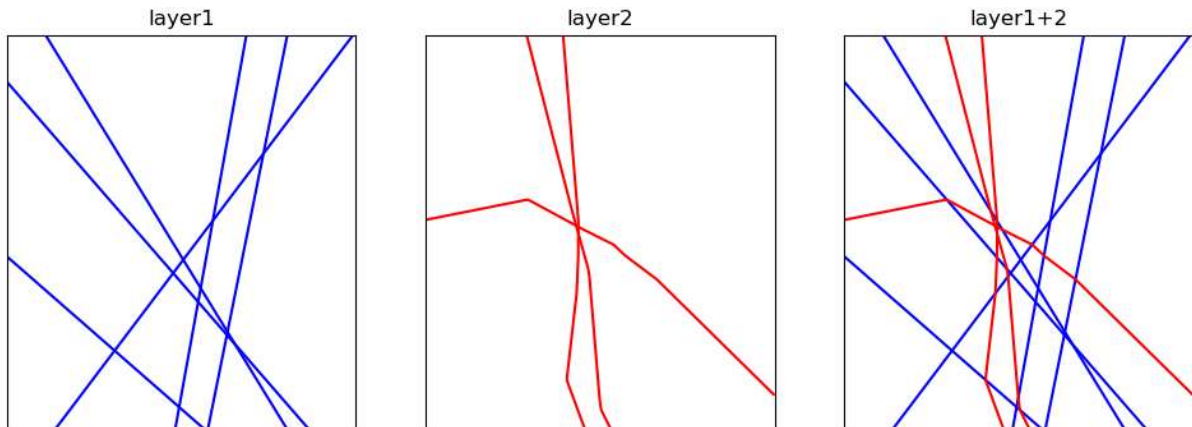

Figure 1: Spline Visualization Example
- **Background:** Recent advancements in Deep Neural Networks (DNNs) have been impressive, yet the underlying mechanisms behind their exceptional performance remain largely unexplored. A promising area of research is the use of spline approximation theory to shed light on these mechanisms. In this context, each activation node in a DNN can be seen as a subdivision line within the network's input space. This approach divides the DNN input space into distinct, non-overlapping regions, each contributing to the network's overall input-output behavior. As shown in Fig. 1, the partition Ω of the DNN input space